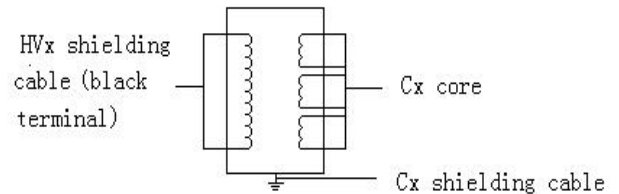
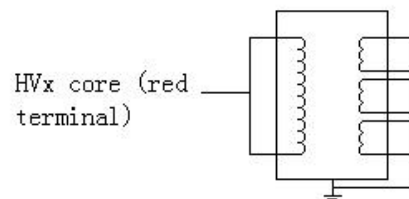

Figure 9 CT
Figure 10 CT
A. See Figure 9
A. See Figure 9(core connect to end shield)
(3) Primary side to secondary side and ground
A. See Figure 10